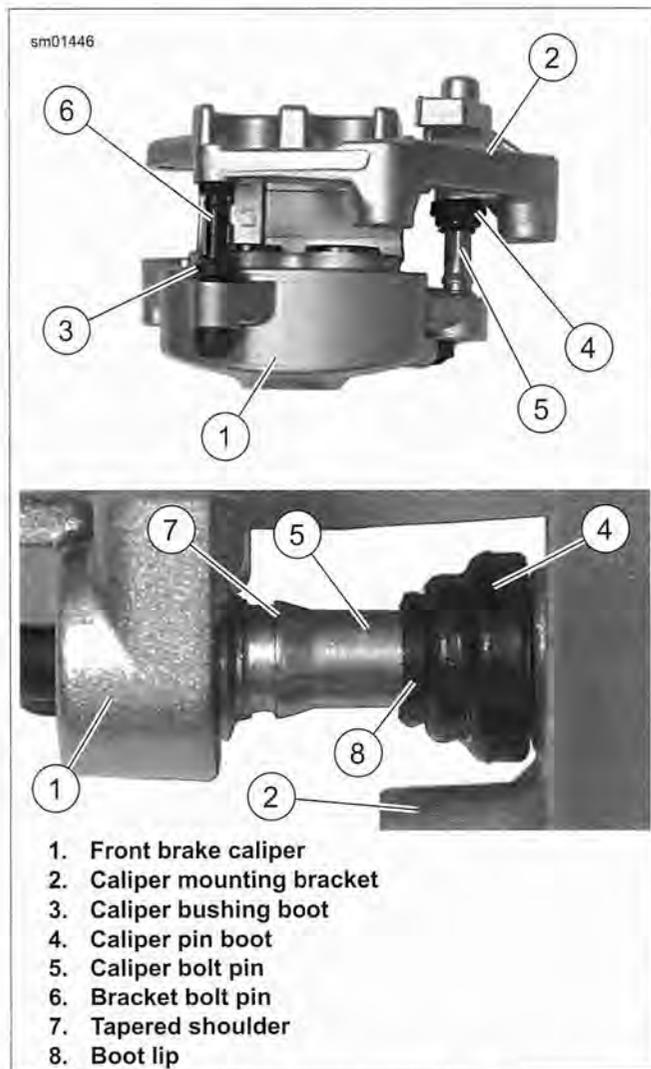

Figure 2-60. Assembling Front Brake Caliper and Mounting Bracket
2. See Figure 2-60. Apply G40M BRAKE GREASE inside boot lip (8) to prevent sticking between boots (3, 4) and bolt pins (5, 6).
3. Assemble brake caliper and mounting bracket, carefully sliding bolt pins into boots. Slide brake caliper all the way onto mounting bracket until boot lips fit over tapered shoulders (7) of bolt pins.